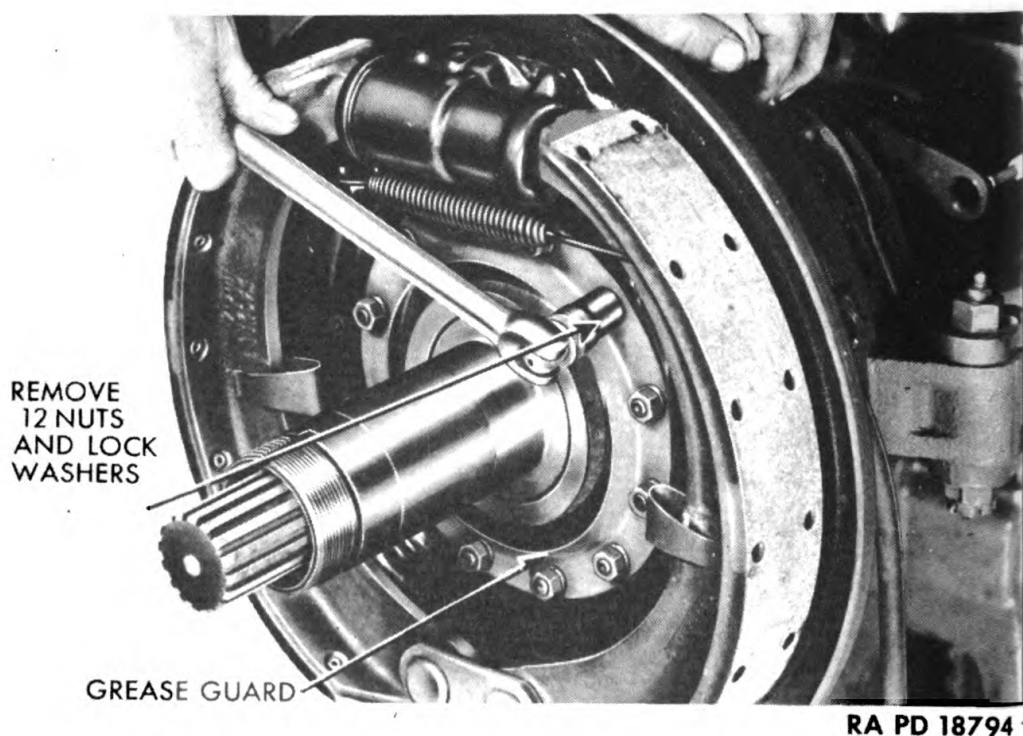
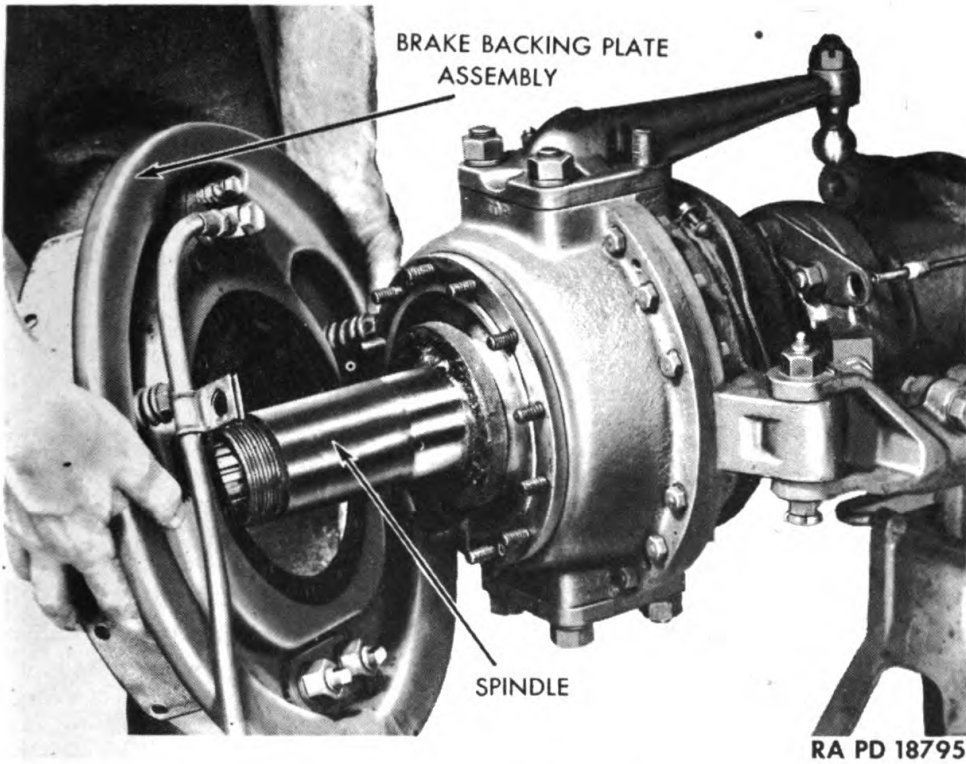

Figure 27 — Removing Grease Guard Nuts
Figure 28 — Removing Brake Backing Plate Assembly
e. **Remove Brake Backing Plate Assembly.** Remove 12 nuts and lock washers from studs holding grease guard or dirt deflector to brake backing plate (fig. 27). Lift off deflector from studs. Lift brake backing plate assembly from axle housing (fig. 28).